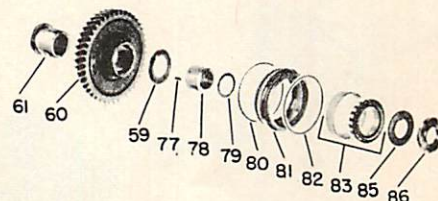

Fig. O121 — Above parts are used on four-wheel drive models to permit front wheel drive case to be attached to front of main frame.
Fig. O120 — Exploded view of transmission gears and shafts. Reverse gears (35 rear, 48 and 69) are not used on models with Reverse-O-Torc Drive; spacers (40 and 71) instead of gears are used on output shaft and countershaft. Refer to Fig. O121 for parts used when four-wheel drive case is mounted on front end of main frame.
On four-wheel drive models, unstack and remove the nut (86—Fig. O121) from front end of bevel pinion shaft. Save nut for adjusting bearing preload on reassembly. Then, remove the washer (85) and shims (79) from shaft.
Then, on all models, slide the bevel pinion shaft rearward and remove components as shaft is withdrawn. Remove the oil seal (72), snap ring (73) and rear bearing cup from rear bore in main frame. Remove the front bearing cup from bearing cage (53), or (81—Fig. O121), and remove rear bearing cone from shaft.
On four-wheel drive models, refer to Fig. O121 and proceed as follows: Insert key (77) in slot of bevel pinion shaft and install spacer (78). Install new "O" ring (80) on rear end of bearing cage (81) and firmly seat front bearing cup in cage. Install cage in front bore of main frame and place bearing cone in cup and over spacer